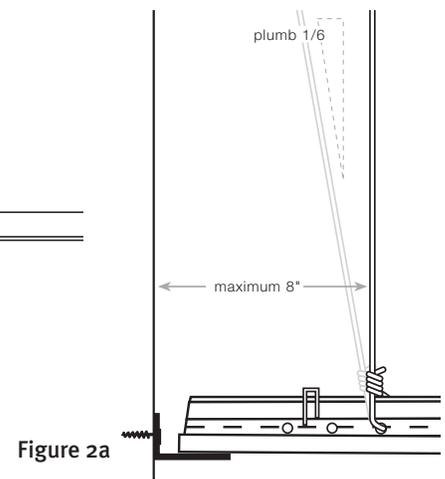

Figure 2a
- Hanger and perimeter wires must be plumb within 1 in 6 unless counter sloping wires are provided. See figures 2a and 2b. (*ASTM C-636*)